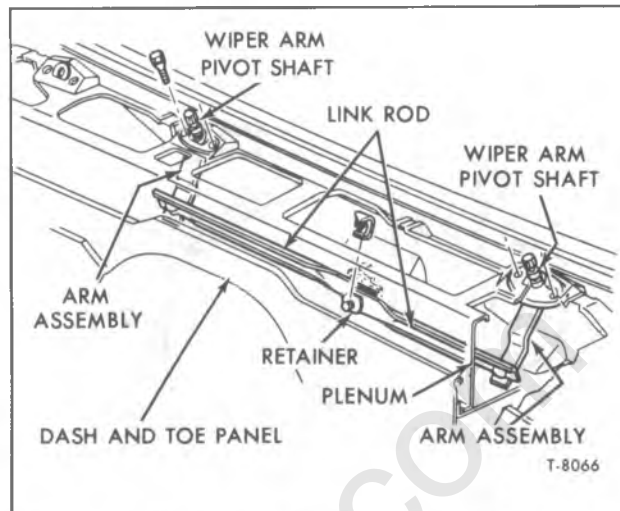

Figure 10—Windshield Wiper Linkage (Conv. Cab Model)
3. At center of cowl, remove retainer (fig. 10) which attaches each link rod to motor drive linkage and arm assembly. Disengage link rods from pins.
1. Place pivot shaft assembly with link rod into position at cowl bracket. Secure assembly to bracket with two screws (fig. 10).
3. Install outside air cowl ventilator grille to top of cowl using screws (fig. 10).